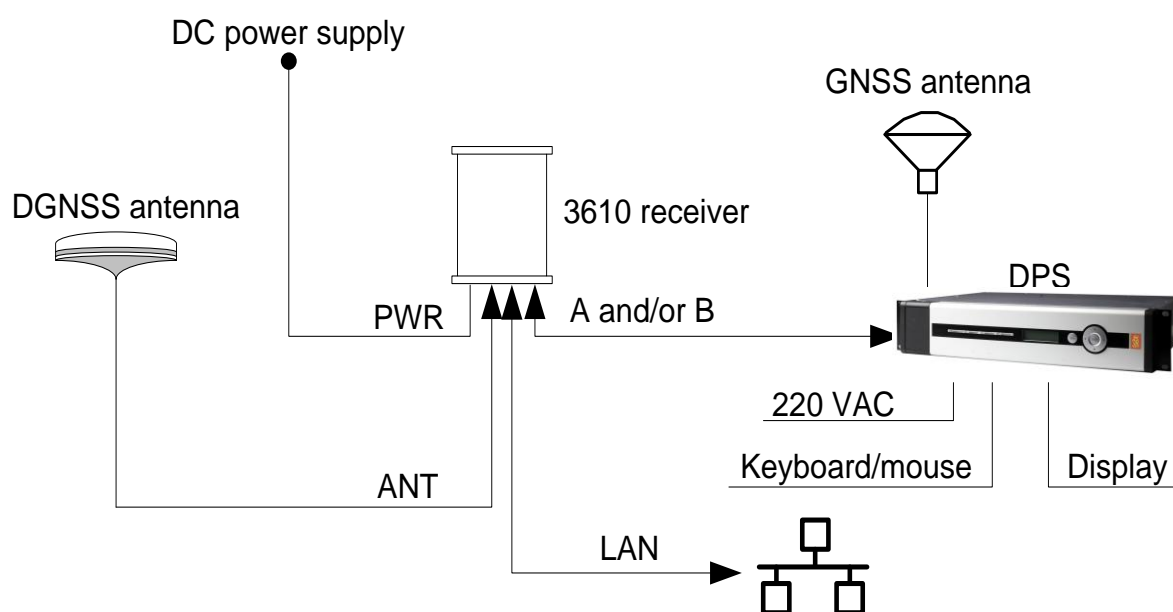

Figure 6. DGNSS receiver and DPS connection
1. Connect the receiver and DPS as described in Figure 6. below: